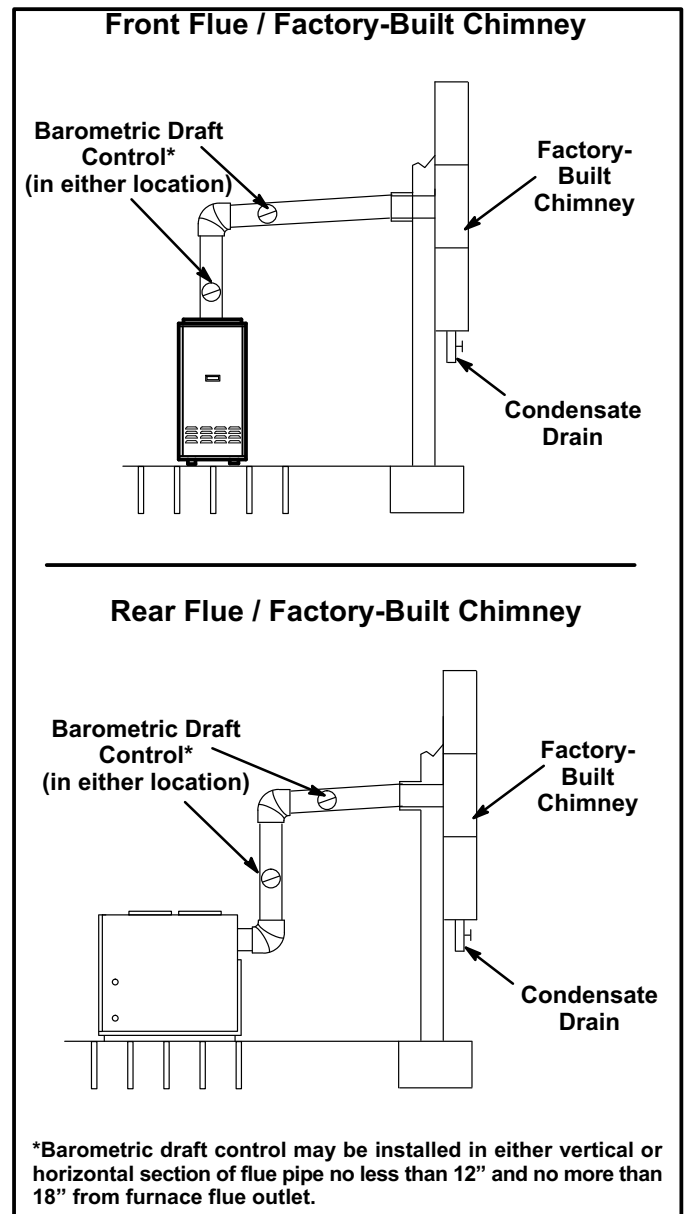

Figure 11
- 15 - All vent pipe run through unconditioned areas or outside shall be constructed of factory built chimney sections. See figure 11.